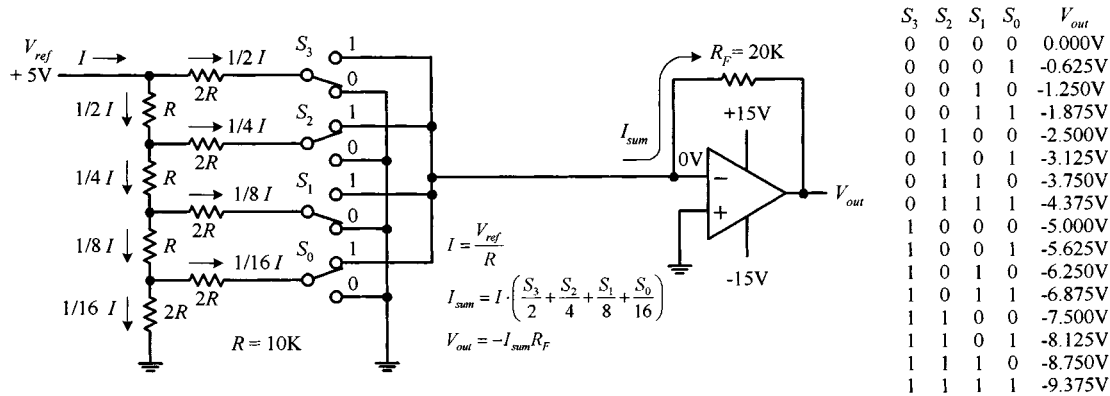

FIGURE H.7
that we need only two resistor values, R and $2R$. Figure H.7 shows a simple 4-bit $R/2R$ DAC. For now, assume that the switches are digitally controlled (in real DACs they are replaced with transistors).
The trick to understanding how the $R/2R$ ladder works is realizing that the current drawn through any one switch is always the same, no matter if it is thrown up or thrown down. If a switch is thrown down, current will flow through the switch into ground (0 V). If a switch is thrown up, current will flow toward virtual ground—located at the op amp’s inverting input (recall that if the noninverting input of an op amp is set to 0 V, the op amp will make the inverting input 0 V, via negative feedback). Once you realize that the current through any given switch is always constant, you can figure that the total current (I) supplied by V_{ref} will be constant as well. Once you’ve got that, you figure out what fractions of the total current passes through each of the branches within the $R/2R$ network using simple circuit analysis. Figure H.7 shows that $\frac{1}{2}I$ passes through S_3 (MSB switch), $\frac{1}{4}I$ through S_2 , $\frac{1}{8}I$ through S_1 , and $\frac{1}{16}I$ through S_0 (LSB switch). If you’re interested in how that was figured out, the following circuit reduction should help.
determined by $V_{\text{out}} = -I_{\text{sum}}R_F = -(156.25 \mu\text{A})(20 \text{ k}\Omega) = -3.125 \text{ V}$. The formulas and the table in Fig. H.7 show the other possible binary/analog combinations.